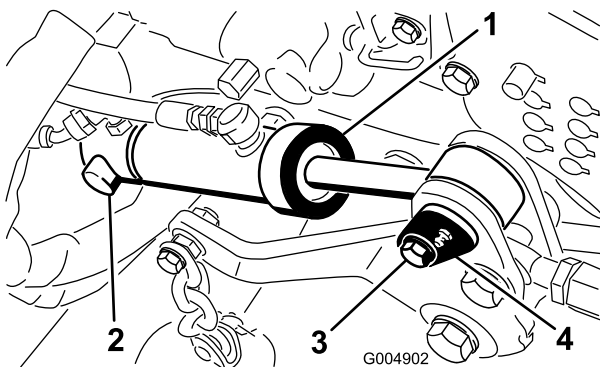

Figure 91
36. Install the rear of the deck lift cylinder onto the pivot pin and secure with the retaining ring (Figure 91).
37. Secure the front of the lift cylinder to the mower frame with the cylinder pin and screw (Figure 91).